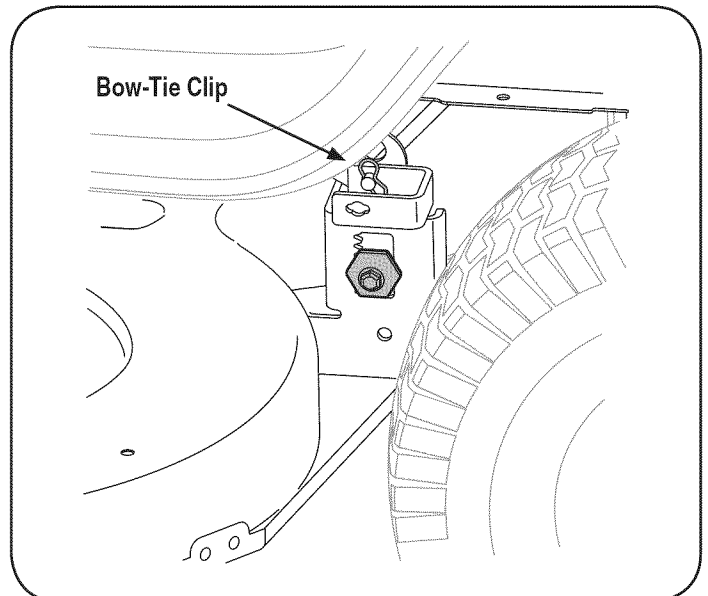

Figure 18
- Looking at the cutting deck from the left side of the tractor, locate the bow-tie pin that secures the deck support rod on the rear left side of the deck. See Fig. 18. Remove the bow-tie pin that secures the deck support rod, and carefully remove the deck support from the deck lift arm.